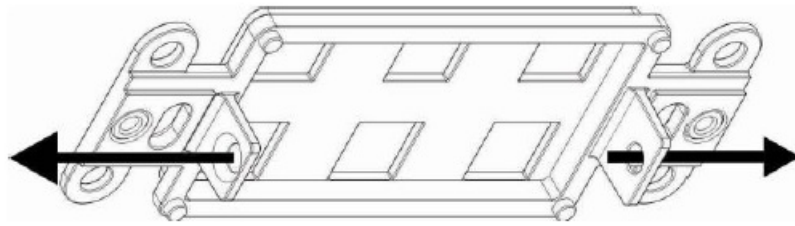

Figure 7: Removing the Mounting Plate Screws
1. Remove the design frame from the device by removing the two mounting plate screws (see Figure 7) and remove the mounting plate. Put the screws aside.